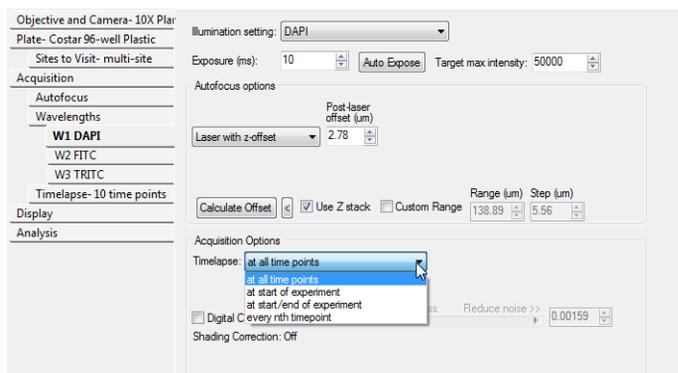

Figure 1-15: The Timelapse Acquisition field on the **Wavelength 1** tab
8. If applicable, select additional options on the Wavelength tabs. **Wavelength** tabs provide options for acquiring individual wavelength images during a timelapse experiment. See Figure 1-15 on page 26.